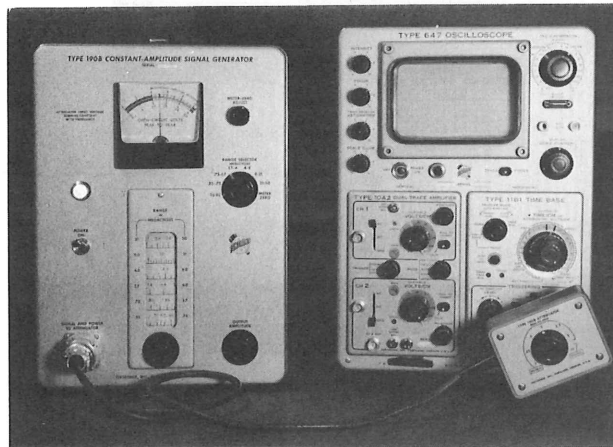

Figure 13
2. Connect the 190B constant amplitude sine wave generator to the EXT TRIG in connector using a UHF to BNC adapter. See Figure 13.